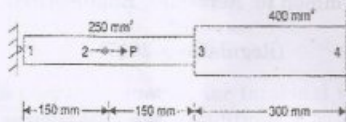

Fig. 1
12. (a) Determine the nodal displacement and element stresses for axially loaded bar shown in the Fig.1.